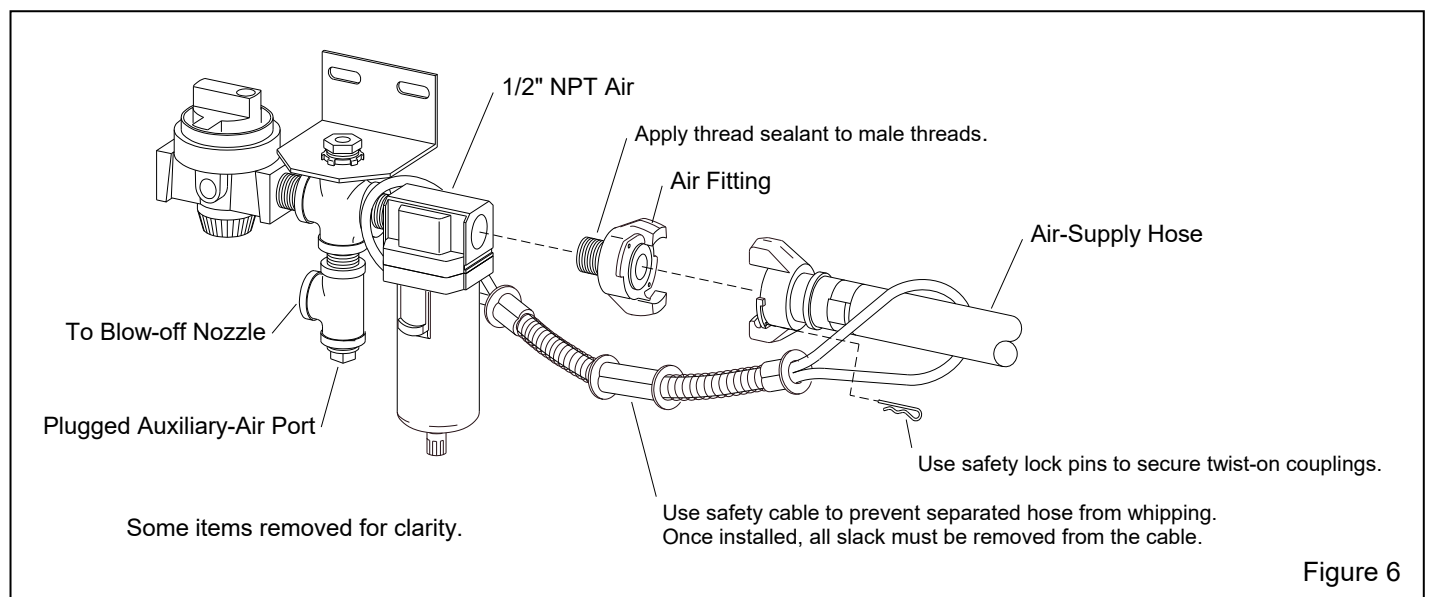

Figure 6
1.10.1 The size of the compressor required to operate the cabinet depends on the size of the air jet and blasting pressure. Unless otherwise specified, cabinets are supplied with a No. 5 (5/32" orifice) jet. Refer to the table in Figure 5 to determine air consumption. Consult with a compressor supplier for suggested compressor size based on the air consumption. **NOTE: A separate air line is required for the reverse-pulse dust collector. If preferred, remove the plug from the auxiliary air port (shown in Figure 6) and connect a 1/4" ID or larger air line to the dust collector pulse reservoir/manifold. Refer to the dust-collector owners manual.**
A separate air line is required for the dust collector pulse. Refer to the dust-collector owner's manual. The line may be connected to the auxiliary-air port on the cabinet plumbing, as shown in Figure 6.
2.3.1 Refer to Paragraph 2.3.2 to determine the recommended air-supply hose size, then refer to Figure 6 and apply thread sealant to the male threads of an air fitting that is compatible with the air-supply hose fitting, and install it onto the 1/2-NPT air filter located under the cabinet hopper. The style of connection shown in Figure 6 is for reference only.